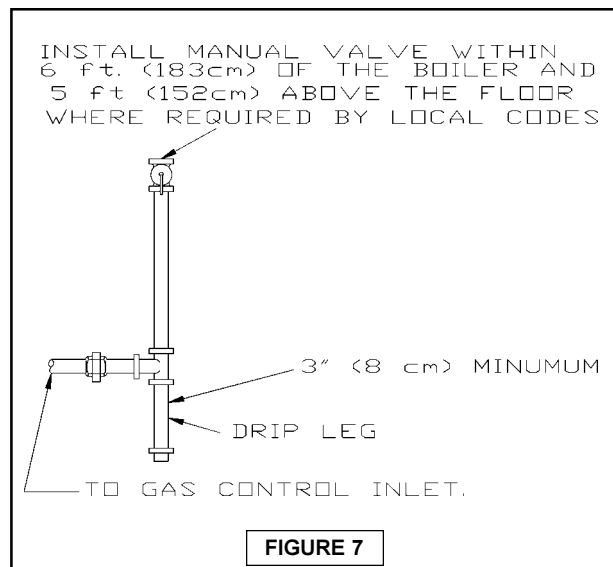

FIGURE 7
1. Connect gas service from meter to control assembly in accordance with ANSI Z223.1 and local codes or utility. A ground joint union should be installed for easy removal of gas control for servicing. A drip leg or trap must be installed at the bottom of a vertical section of piping at the inlet to the boiler. A pipe compound resistant to the action of liquefied petroleum gases must be used on all threaded pipe connections. Check with the local utility for location of manual shutoff valve if required. See figure 7 below.
5. See figure 7 below for a typical gas line installation, and the table below for pipe sizes.